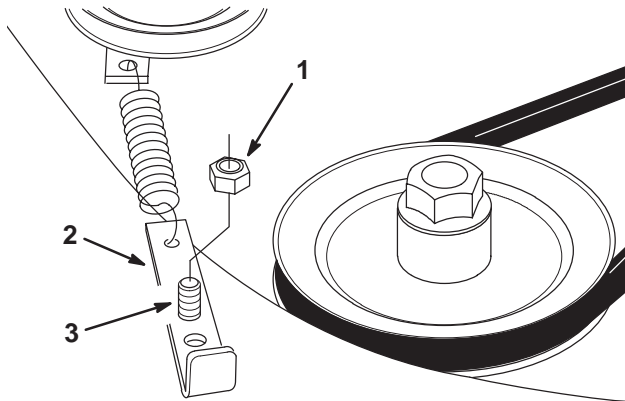

Figure 32
2. Lift the spring anchor up and off of the cap screw (Fig. 32).
3. Install the appropriate hole in the spring anchor onto the cap screw to increase the idler pulley spring pressure on the deck idler pulley (Fig. 32).
4. Install and tighten the nut onto the cap screw (Fig. 32).